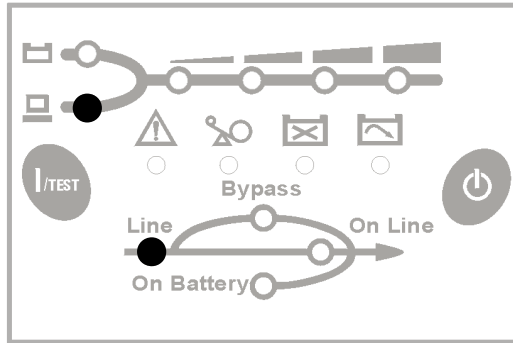

Figure 5 Stand-by Mode
2. The fan (on the rear panel) will run and, as a front panel test, all LEDs will light up for about 2-3 seconds. The LPS begins in 'STAND-BY' mode and the battery will be charging. See Figure 5.
- 1 To power down the system, push the OFF (far right) button until a short beep is heard. Release the button after the beep. After a few seconds the unit will be in the 'STANDBY' mode and will continue to keep the batteries charged. See also Figure 5.